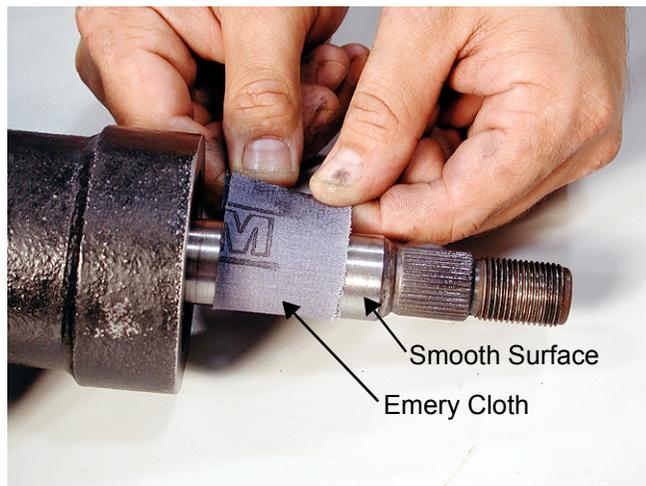

Figure 13
15. Clean the smooth exposed surface of the axles with fine emery cloth. See Figure 13.